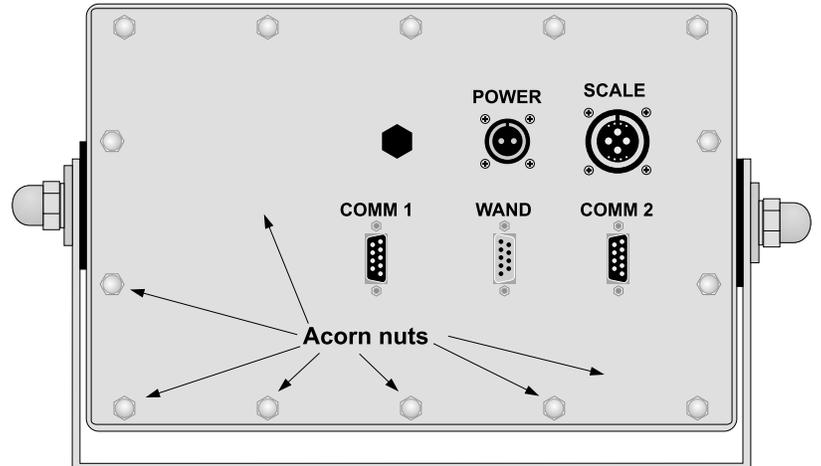

Figure 12
2. Remove the back of the WI-130 by removing the fourteen acorn nuts and pulling the back cover from the case. See Figure 12.